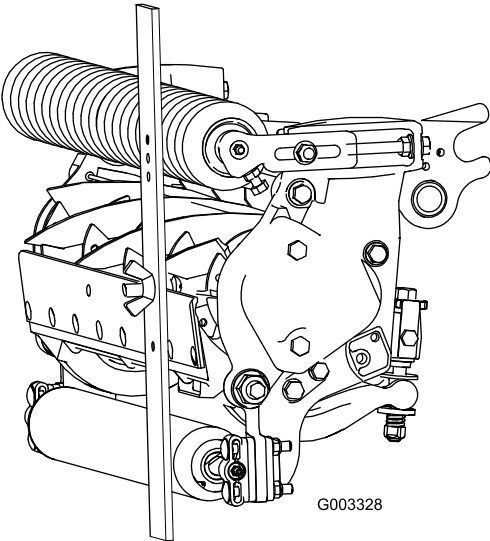

Figure 18
- 3. Hook the screw head on cutting edge of bedknife and rest rear end of bar on rear roller (Figure 18).
- 4. Rotate the adjusting screw until the front roller contacts the gauge bar (Figure 18). Adjust both ends of roller until entire roller is parallel to the bedknife.